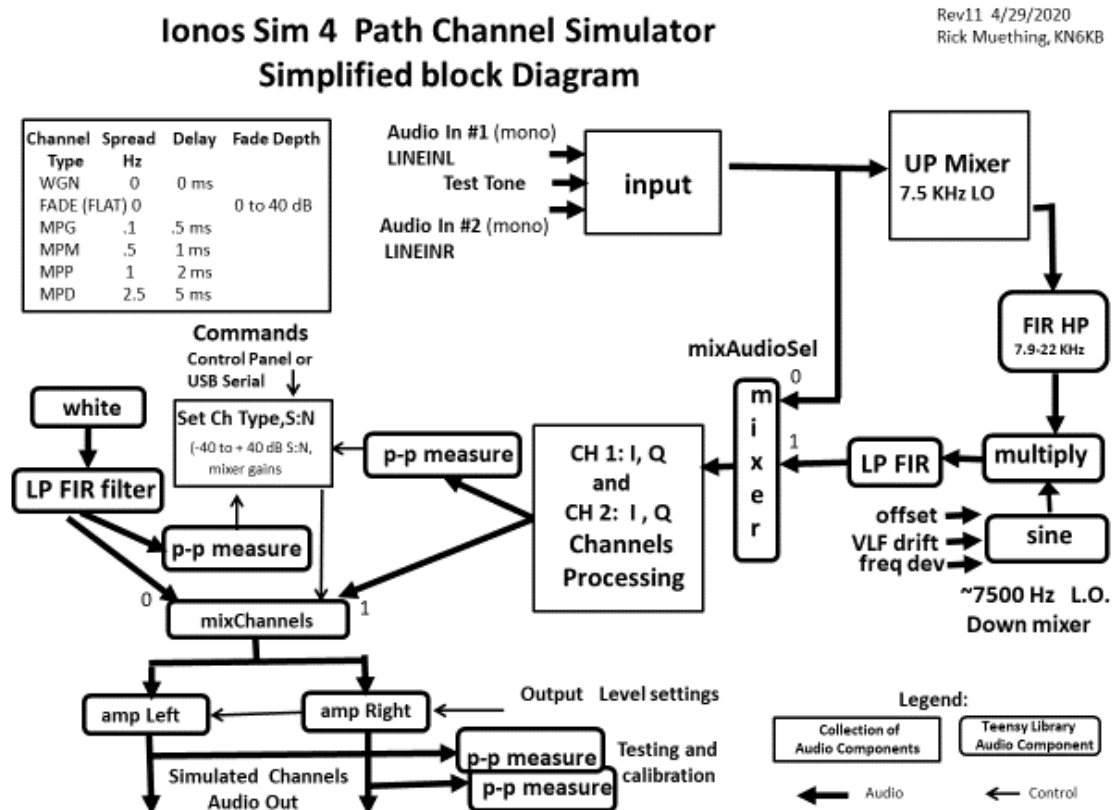

Fig 1. Teensy IONOS HF/VHF Channel Simulator block diagram.
2.0 Basic Description: The **IONOS SIM** Simulator is based on the low-cost but powerful Teensy 4.0 processor (<https://www.pjrc.com/store/teensy40.html>) and was developed using the Arduino platform and makes extensive use of the Teensy Audio DSP library <https://www.pjrc.com/teensy/gui/index.html>. The IONOS SIM software is released under the MIT Open Source License (see appendix). A simplified block diagram of the simulator is shown below in Fig 1.